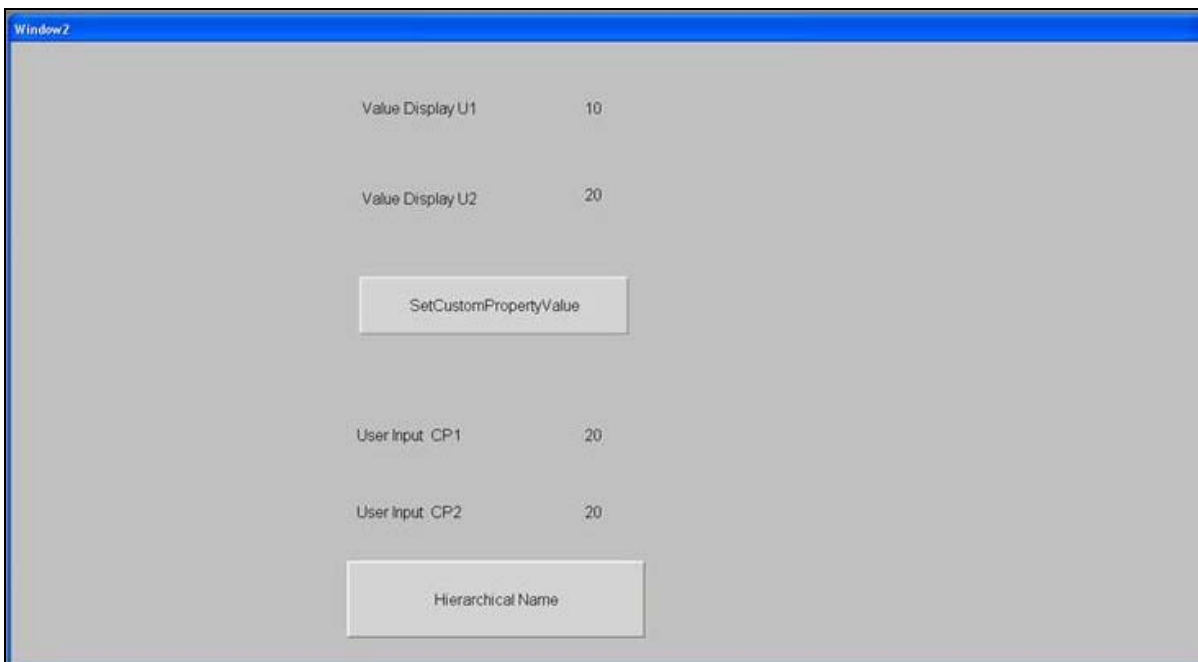

FIGURE 11: VALUES ASSIGNED TO INT1, INT2
13. Click the **SetCustomPropertyValue** button. This action assigns the value of CP2 to **CP1** from Tank1_001 (Figure 11 below).